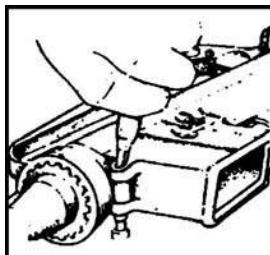

Figure 071-311-2025-7. Pushing the receiver pivot pin
- f. Separate the upper and lower receivers (figure 071-311-2025-8).